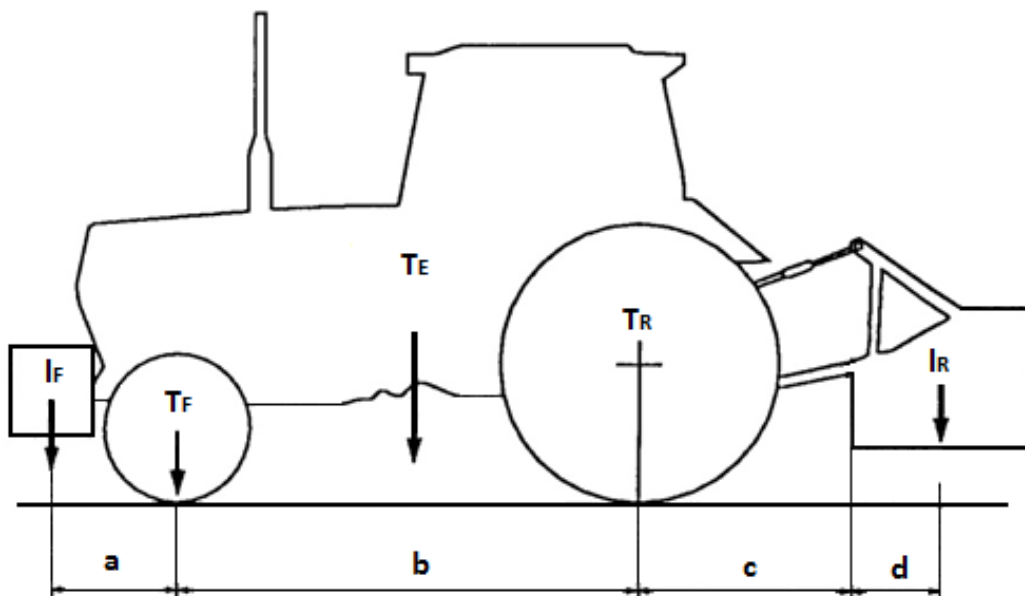

Figure 12
2. Lift the machine as much as necessary and keep it on its levelling roll/wheels, so that the transmission organs do not touch the ground (figure 12);